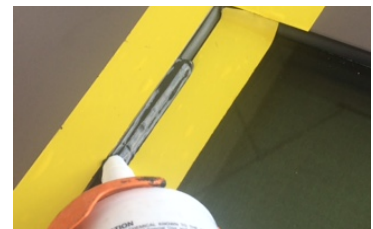

Figure C4:
8. Run a bead of silicone along the Stile and glass where the vinyl has been cut away. Tool the silicone bead to simulate the same size and shape as the glazing vinyl. Repeat on other side of the panel (Figures C4 & C5).